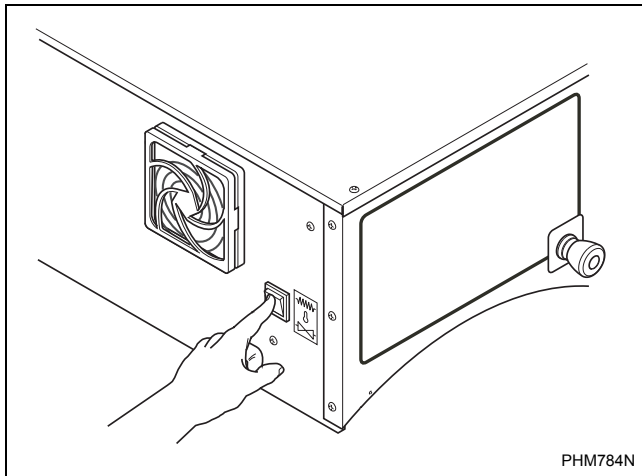

Figure 39
1. To switch between the heating type, locate the switch on the left side of control module. Refer to *Figure 39*.